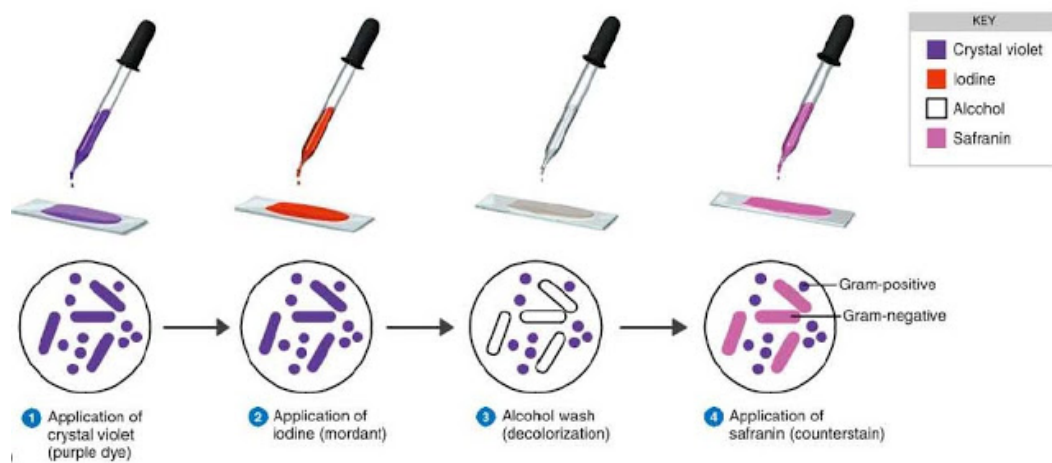

Fig. 4 Gram staining procedure
**f) Differential stain:** Differential staining involves the usage of 2 or more stains. Sometimes it also involves heating. Such staining techniques helps in differentiating between different parts of a cell, e.g. areas of fat storage. It can also differentiate the various groups of bacteria, e.g. between Gram-positive and Gram-negative bacteria (**Fig.4**). The reaction of bacteria to Gram's staining method is a consequence of differences in the chemical structure of the bacterial cell wall and is a key feature in their identification. The basis of Gram's staining method is the ability of the cell to get stained with crystal violet to retain the colour when treated with a differentiating agent, usually alcohol (although
professionals sometimes use acetone). They are further stained in the contrasting colour of a counter stain, usually pink/red. Bacteria that retain the violet/purple colour are called Gram-positive. Those that lose the violet/purple colour but take the pink/red are called Gram negative. **Fig.4 Gram staining procedure**